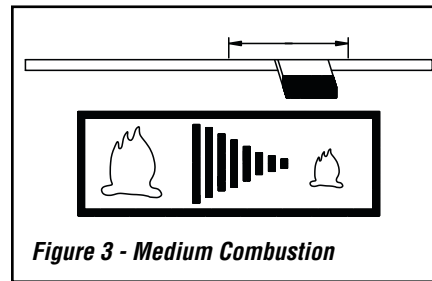

**Figure 2 - Accelerated Combustion**
**Step 2.** Completely open the air control level. See *Figure 2*.